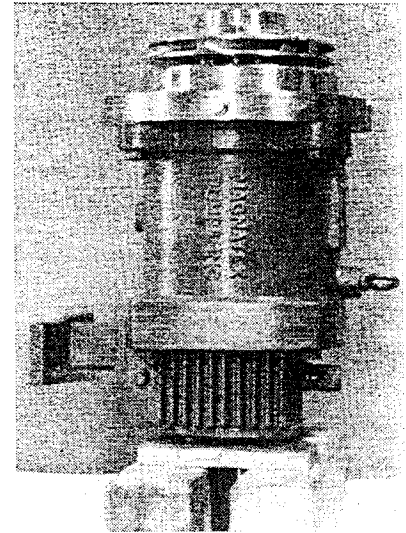

Figure 13
4. Set the pump so the motor shaft end is down. Brace the assembly by positioning the shaft between supports for direct support to the bearing housing [Fig. 13]. Remove the gasket (Item 80).